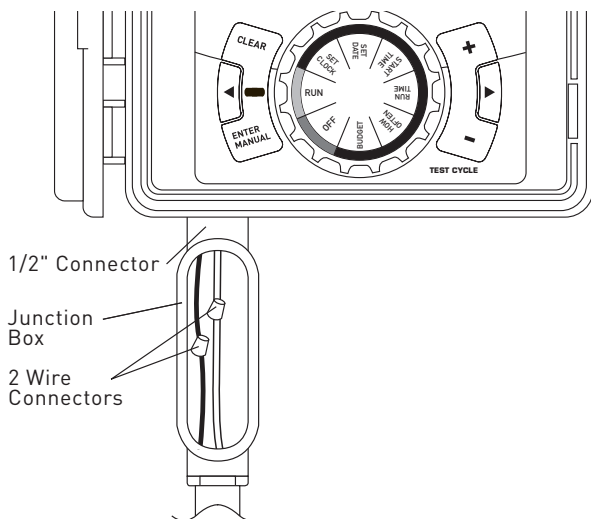

Figure 5: Using a Junction Box
Outdoor Locations – If a covered Ground Fault Interrupter (GFI) outlet is available, insert the power cord into the 110 volt outlet. If no outlet is available, the controller must have the wiring permanently installed [*see figure 5]
- Connect the junction box to the controller using a 1/2" nipple (Junction box and nipple not included). [See Figure 5] Connect the source power conduit to the entrance of the junction box, following all the appropriate codes.